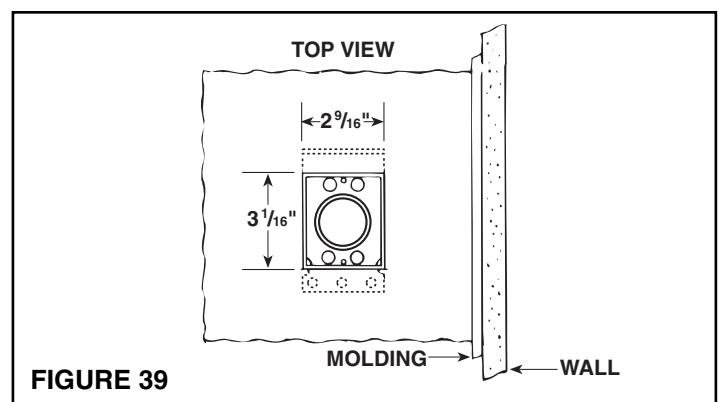

FIGURE 39
1. Refer to Figures 39 and 40. After floor inlet location has been selected, cut a  $3\frac{1}{16}$ " x  $2\frac{9}{16}$ " square hole in floor. Center line of inlet must be located at least  $2\frac{1}{2}$ " from wall to allow cover to be opened when hose is inserted.
2. Determine direction of tubing and attach appropriate flanged fitting to mounting bracket with four (4) screws supplied. **Be sure mounting bracket flange does not interfere with tubing and seal is securely in place.**